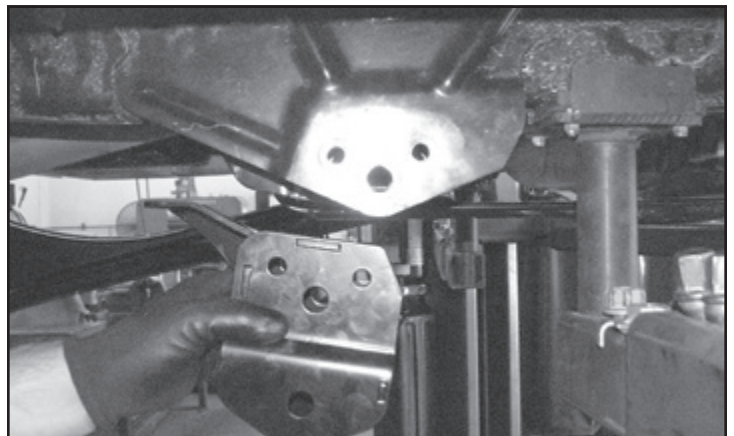

FIGURE 38 - STEP 45
45. Slide the Fabtech radius arm mount into the factory pocket with the frame tab facing the front of the truck. **SEE FIGURE 38**